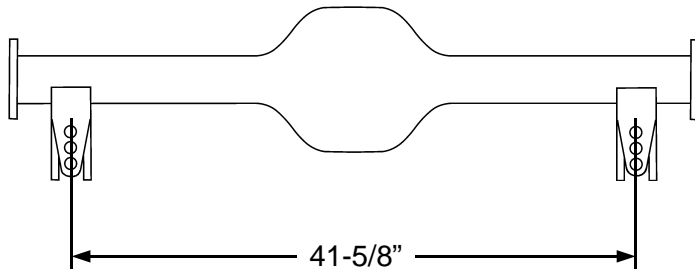
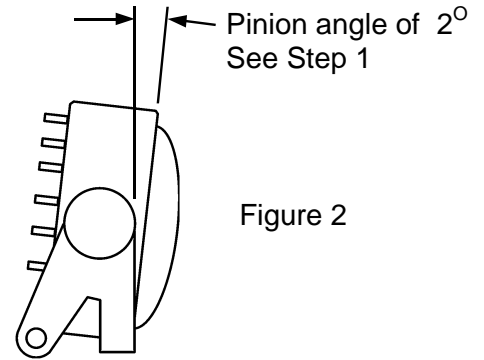

Figure 1
Figure 2
1. Begin by installing the Axle Brackets onto the housing. They are located 41-5/8" apart, as shown in Figure 1, and on the 2° angle shown in Figure 2, which is the pinion angle. Your pinion angle may not be 2°, but it must be determined at this time. Make sure that both Brackets are the same distance from the ends of the axle housing. The Axle Brackets should be tack welded to the housing, and the assembly double checked for square and correct pinion angle.